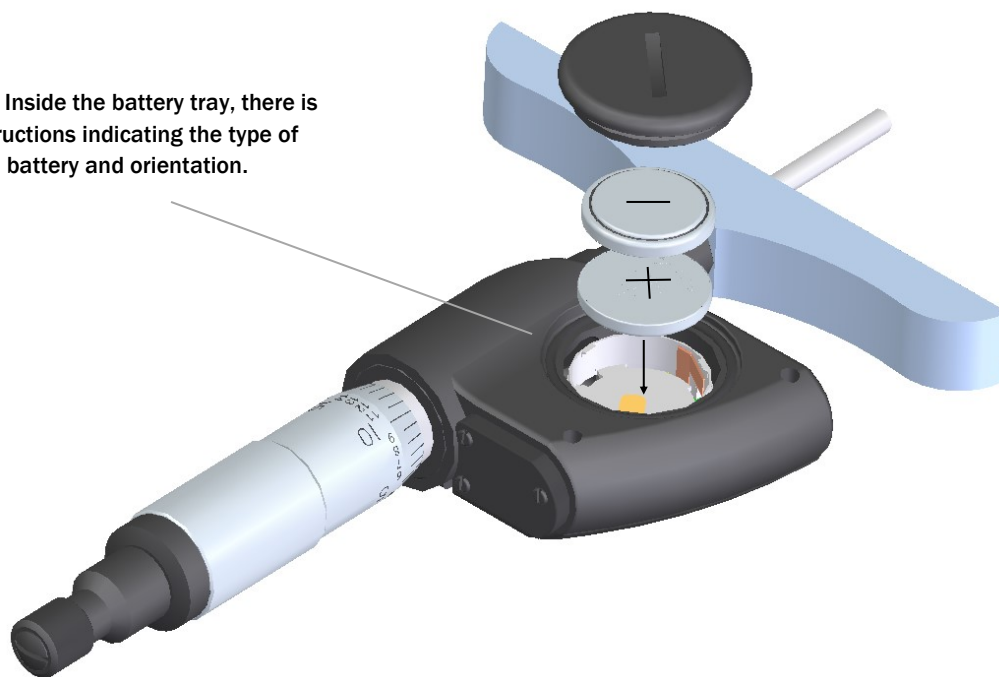

Fig.17C
- Fig.17C, Remove the battery cover and then Install the first battery with negative side down; install the second battery with the positive side down, Fig.17B. Replace the battery cover; making sure the rubber gasket is positioned correctly on the cover and secure.